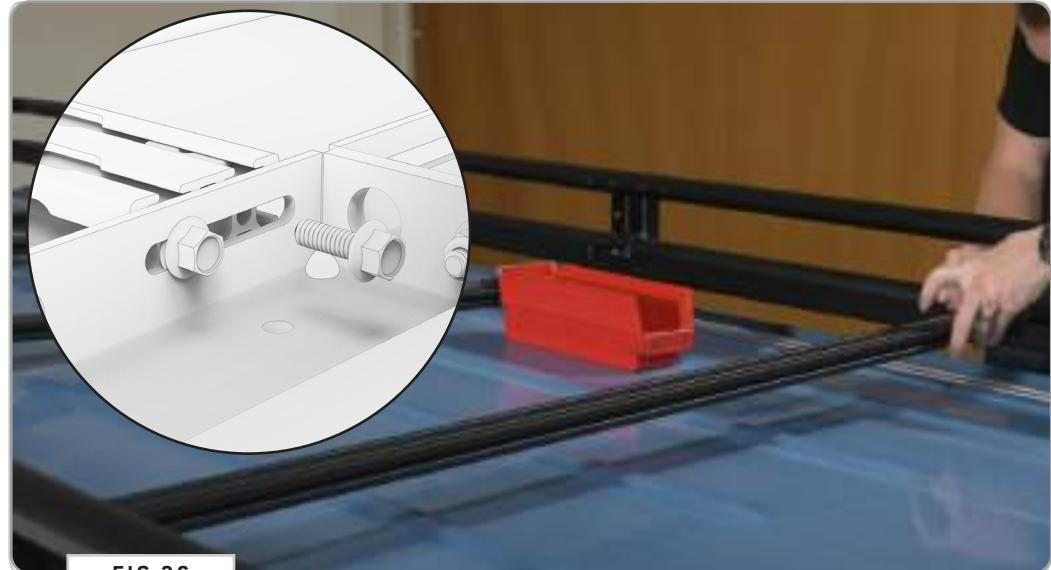
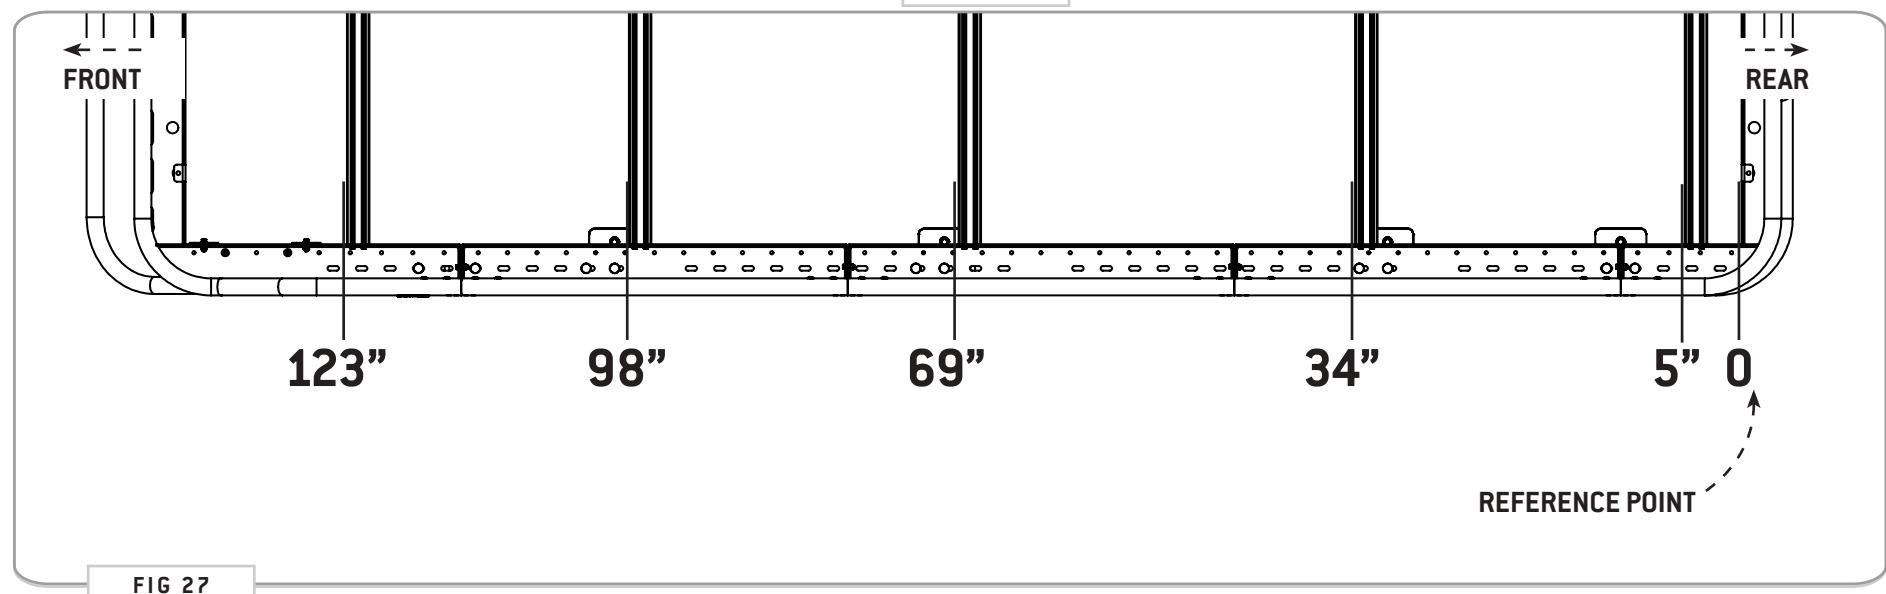

FIG 26
FIG 27
10.1 Attach Crossbars: Using (4ea) 1/4-20 Flanged Hex Bolts with Loctite (FIG 26), attach Crossbars to the rack in the locations shown in FIG 27. Be sure to measure both sides to ensure that the crossbars are square.